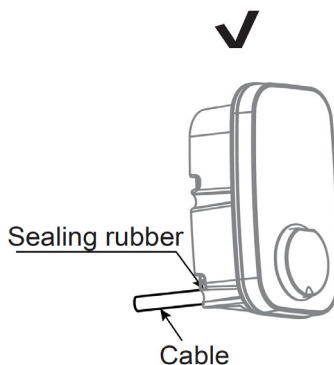

Fig. 7
- Option 2: Rear entry: the cable enters through the rear, using the sealing rubber. Fig. 7